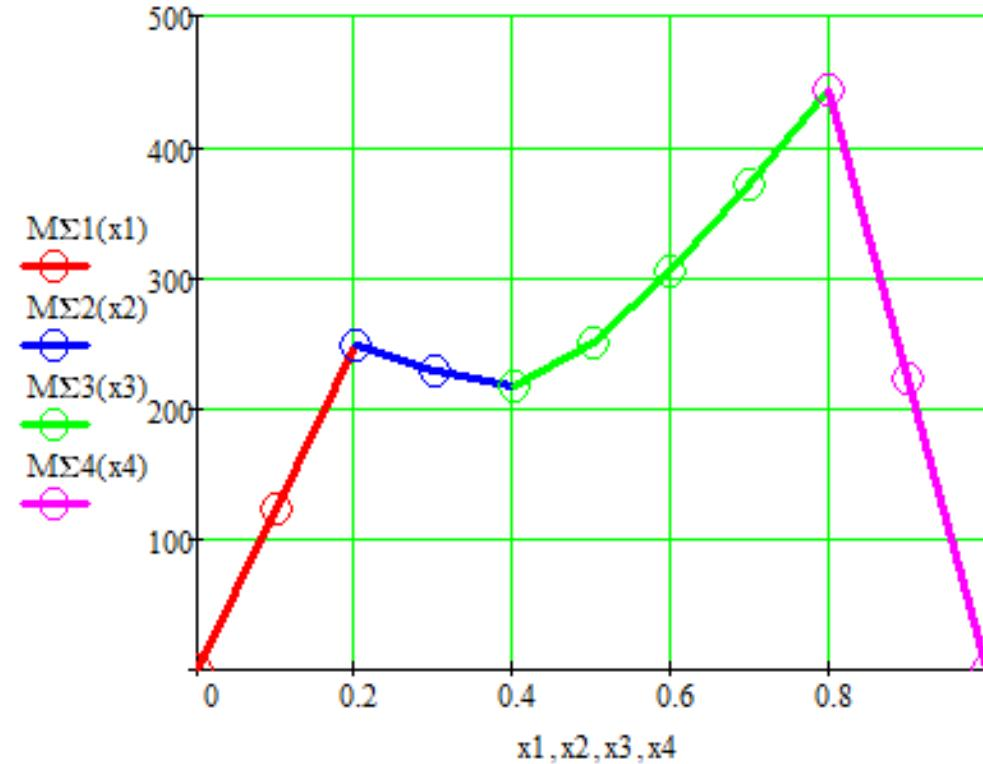

Fig. 12 – Diagram of resulting bending moments
13. Construct a diagram of resulting bending moments (Fig. 12)